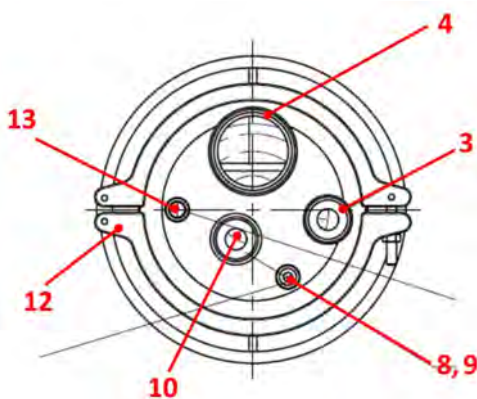

Fig. 3: Connections relevant to installation
When installing the pressure relief valve (Fig. 3; item 13), ensure that the printed arrow points away from the container towards the open side of the 180° elbow!
The pressure relief valve (Fig. 3; item 13) is used with the supplied O-rings as a seal between the two TC pipe sockets. An additional TC seal is not used.